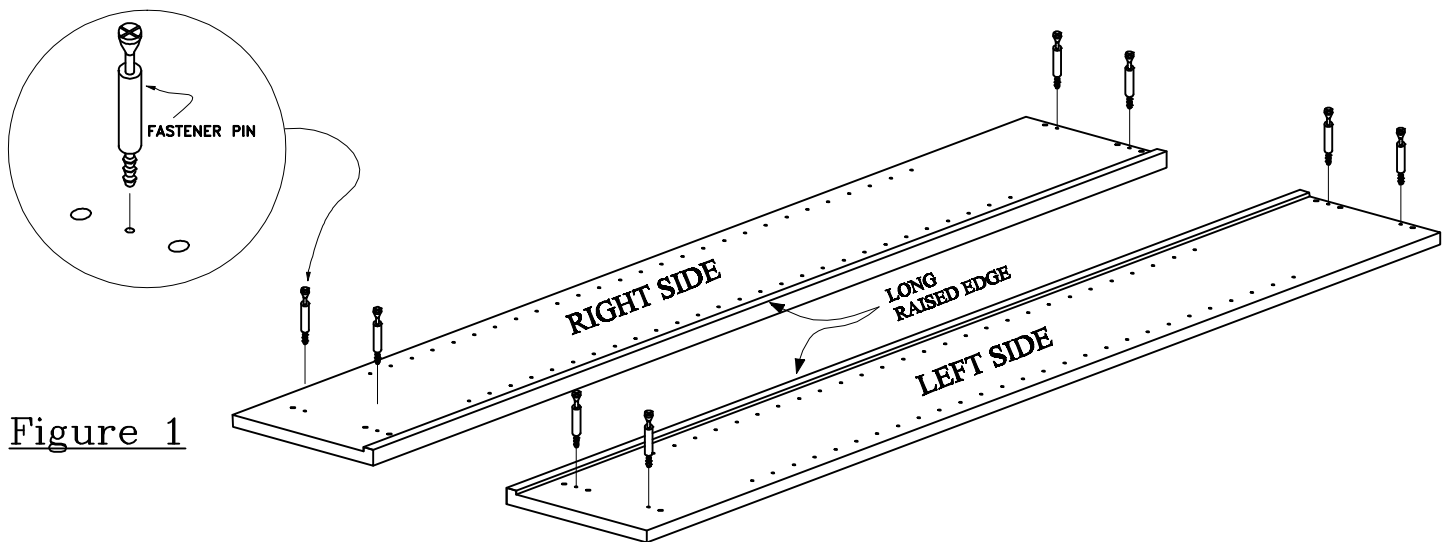

Figure 1
Step 2. On a clean soft surface, such as a carpet or the inside of the carton, place **RIGHT SIDE**, with the small-predrilled holes facing up and the long raised edge facing towards you. See Figure 1.
Step 3. Insert and screw 4 metal fastener pins into 4 small pre-drilled holes of **RIGHT SIDE**. **DO NOT OVER TIGHTEN.** See Figure 1.
Step 4. With your friend, carefully place **LEFT SIDE**, with the small-predrilled holes facing up and the long raised edge facing towards you. See Figure 1.
Step 5. Insert and screw 4 metal fastener pins into 4 small pre-drilled holes of **LEFT SIDE**. **DO NOT OVER TIGHTEN.** See Figure 1.